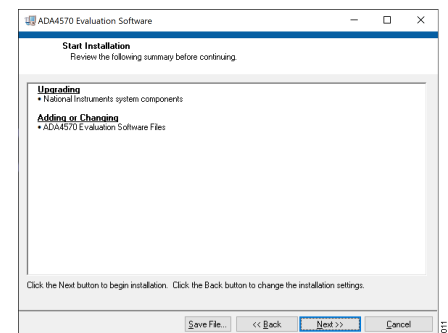

Figure 11. Start Installation Window
6. The window shown in Figure 11 provides a summary of the software installation. Click **Next** to install the software listed in the window.